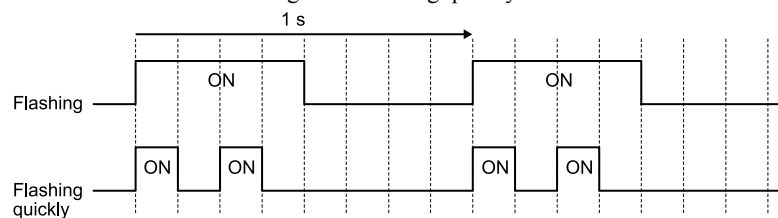

Figure 5.6 LED Flashing Statuses
*1 Refer to Figure 5.6 for the difference between “flashing” and “flashing quickly”.